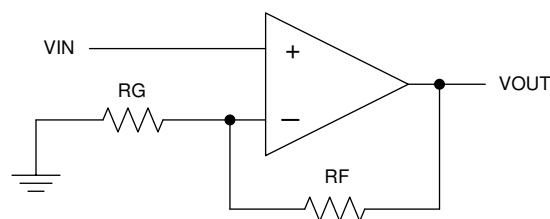

Figure 17. Schematic Representation
- Place the external components as close to the device as possible. As shown in Figure 17, keep RF and RG close to the inverting input to minimize parasitic capacitance.